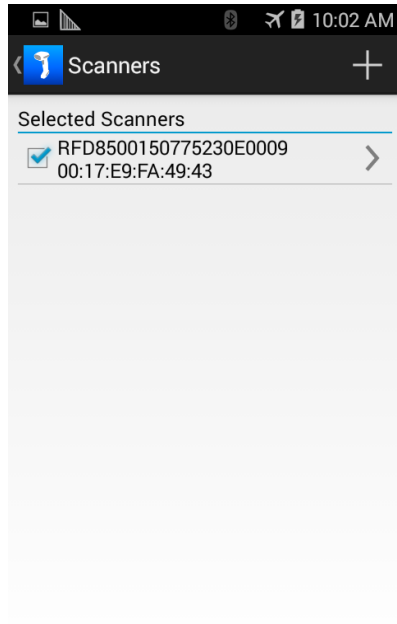

Figure 5-5 *Scanners Screen*
4. The *Scanners* screen displays all scanners paired via Bluetooth with the mobile device. Touch the appropriate scanner (by serial number) to display the *Available Scanner Connect* screen (Figure 5-5).